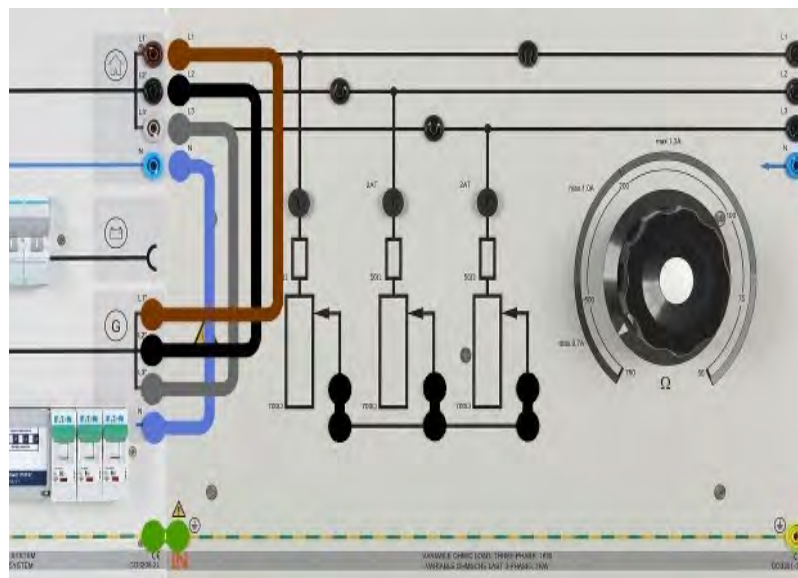

Figure 18
1. Modify the experimental set-up as depicted in Figure 18.